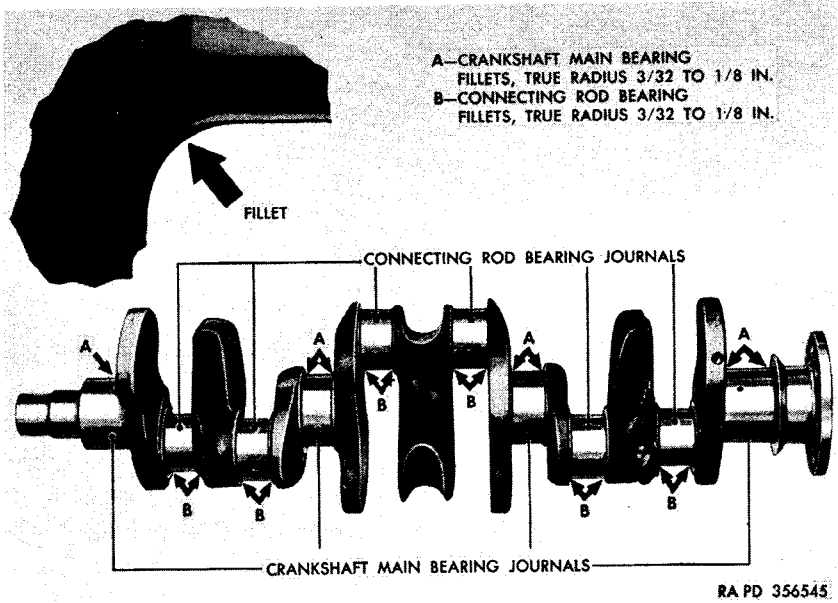
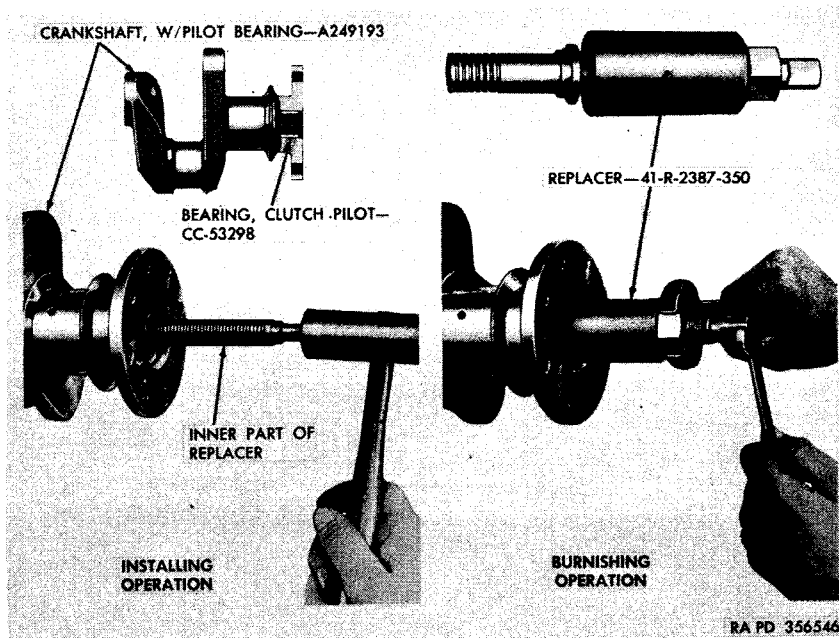

Figure 52. Crankshaft bearing fillets.
Figure 53. Installing clutch pilot bearing.
*b. Inspect and Repair Crankshaft.* Thoroughly clean the crankshaft and use a micrometer to measure the main and connecting rod journals for wear. If one or more journals are tapered, out-of-round, or have run out in excess of wear limits in repair and rebuild standards (par. 64), regrind the journals for undersize bearings or straighten. In general, the crankshaft should not be reground in excess of 0.040-inch undersize. When regrinding the journals, maintain bearing fillets with a true radius of three-thirty-seconds of an inch to one-eighth of an inch for connecting rod bearing journals and crankshaft main bearing journals (fig. 52). Inspect the clutch pilot bearing, located in the rear end of the crankshaft, and replace the bearing if rough or badly worn. Use replacer 41-R-2387-350 (fig. 53), to burnish the new bearing to size. Never attempt to ream the bearing to size.